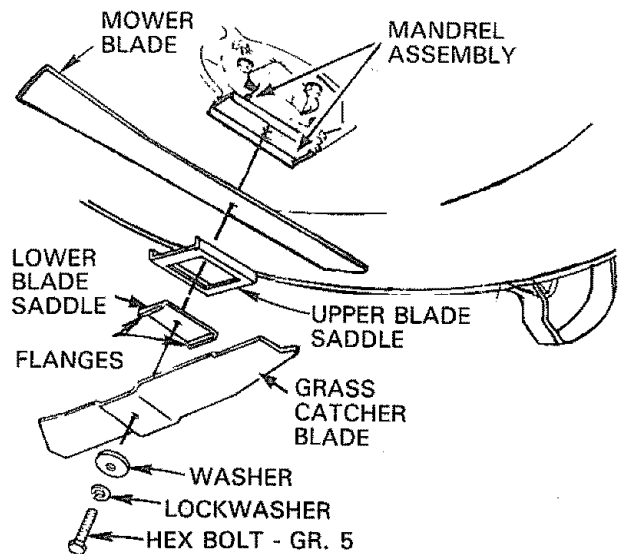

FIGURE 3
8. Mount grass catcher blades, lower blade saddles, upper blade saddles and mower blades to mandrel assemblies (Fig. 3) using: two 3/8 - 24 x 1 - 3/4 hex bolts gr.5, two lockwashers and two washers (shown full size below). Grass catcher blades, lower blade saddles, upper blade saddles and hardware furnished with grass catcher.
- b. Return mower blade (Fig. 3) to original position against mandrel assembly.
- c. Place upper blade saddle and lower blade saddle (Fig. 3) on mower blade. NOTE: Position flanges as shown in Fig. 3.
- d. Place grass catcher blade in lower blade saddle. NOTE: Be sure pointed edges of grass catcher blade are facing upward (Fig. 3).
- e. Secure grass catcher blade assembly to mandrel assembly using hex bolt, lockwasher and washer (Fig. 3). Tighten securely. NOTE: Lower blade saddle must be seated inside upper blade saddle (Fig. 3 - Inset). Repeat procedure for other blade.